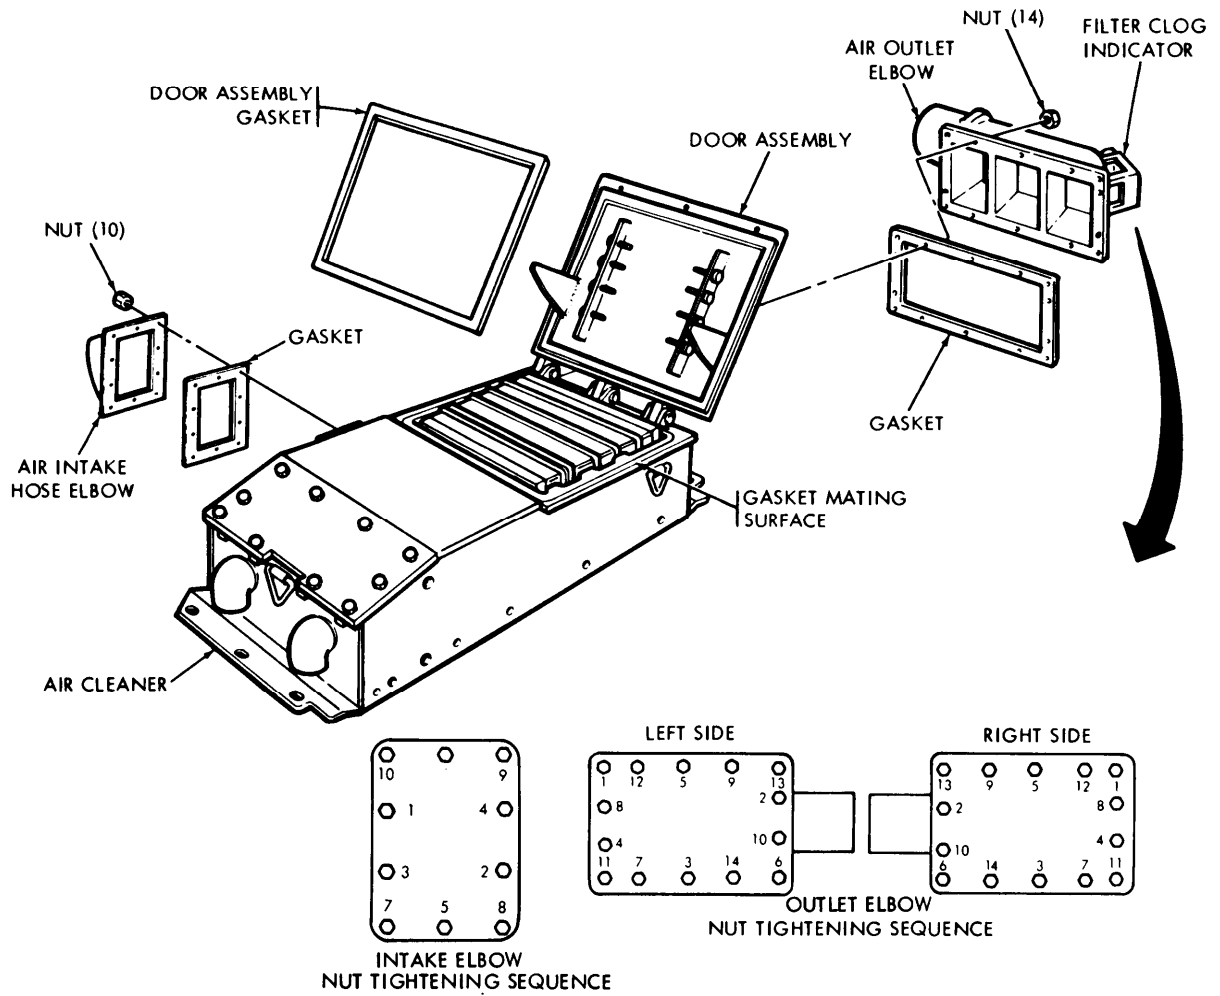
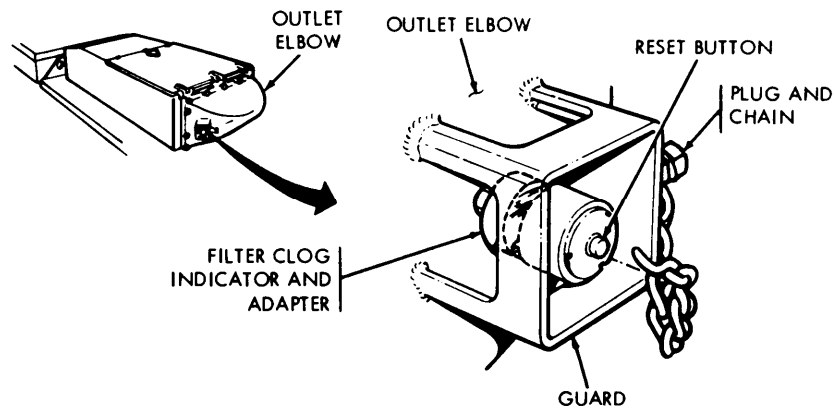
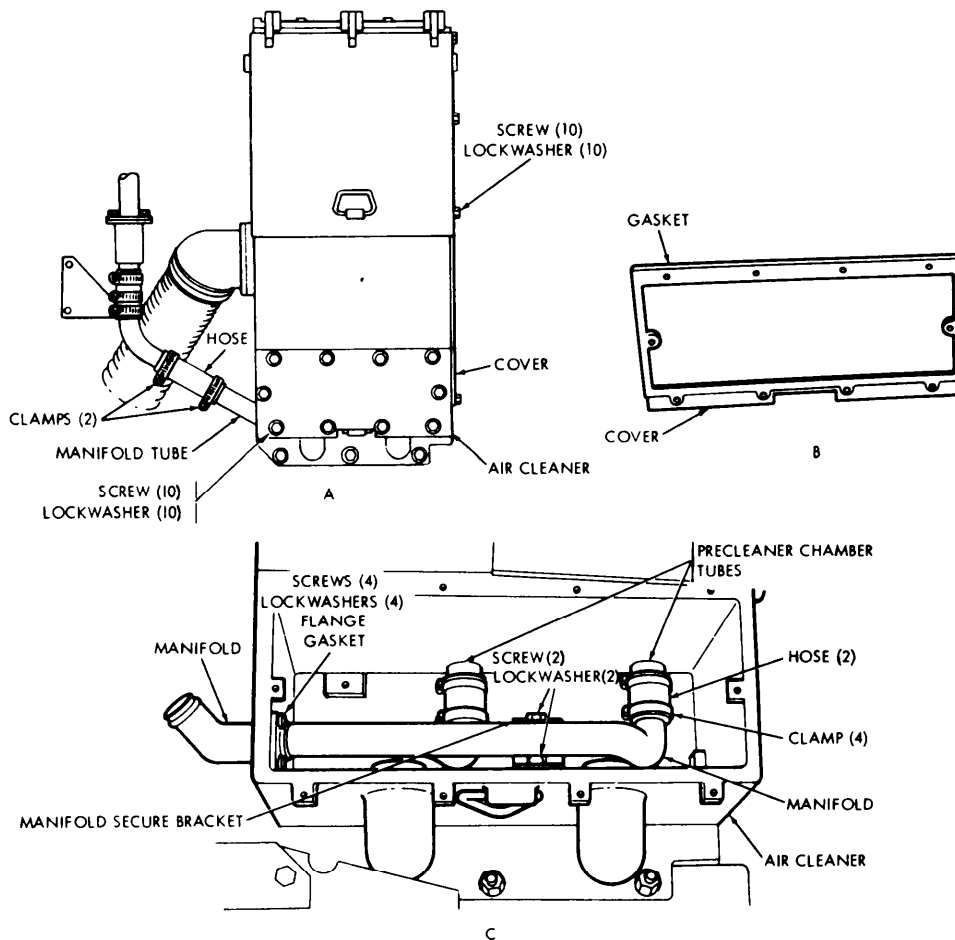

Figure 6-9. Air cleaner repair.
Figure 6-10. Filter clog indicator replacement.
Figure 6-11. Vehicle exhaust dust ejector system (VEDES) air cleaner manifold replacement.
- (11) Remove protective covers from air cleaner air outlet elbow and hose. Install hose clamp over flange and tighten clamp (view D).
- (12) Close top deck door assemblies.
- a. *Door Assembly Gasket Replacement (Fig. 6-9).*
- (1) Completely remove old gasket and adhesive from gasket recess by scraping or other mechanical means.
- (2) Apply adhesive (item 1, appendix C) to bottom of gasket recess in door.
- (3) Install new gasket on door with flat side of rubber gasket toward adhesive.
- (4) Close door assembly and secure with three screws.
- b. *Air outlet elbow replacement (Fig. 6-9).*
- (1) Remove air cleaner (para. g(1) above).
- (2) Remove 14 nuts securing air outlet elbow to air cleaner.
- (5) Remove air outlet elbow and gasket. Discard gasket. Cover air cleaner opening.
- (7) Install 14 nuts securing elbow to air cleaner. Tighten nuts to 35 lb. ft. (47 N.m) using sequence shown in figure 6-9. Repeat sequence tightening nuts to 50 lb. ft. (68 N.m).
- (8) Install air cleaner on vehicle (para. (g) (2) above).
- c. *Air Intake Elbow Replacement (Fig. 6-9).*
- (1) Remove air cleaner (para. 6-13a above).
- (2) Remove 10 self-locking nuts securing air intake hose elbow to air cleaner housing.
- (3) Remove air intake hose elbow and gasket. Discard gasket.
- (4) Remove protective cover from air cleaner air intake hose elbow opening if required.
- (5) Inspect and clean mating surfaces of air intake hose elbow and air cleaner.
- (6) Position new gasket and air intake hose elbow on air cleaner.
- (7) Install 10 self locking nuts securing air intake hose elbow to air cleaner in sequence shown on figure 6-9.
- d. *Filter Clog Indicator Replacement (Fig. 6-10).*
- (1) Remove damaged or defective filter clog indicator along with adapter when engine is not operating. If a new filter clog indicator is not installed right away, install plug attached to chain securely into opening in outlet elbow.
- (2) If plug has been installed into opening (1 above), remove it and install new adapter and filter clog indicator. Install plug in its original position on guard. Push reset button (early model).
- e. *Air Cleaner Manifold Replacement (Fig. 6-11).*
An air cleaner filter clog indicator has been added to each of the air cleaner outlet elbows to indicate when the filters require servicing (fig. 6-10). When the filters are clogged the window on the indicator shows red (early model) or indicates a reading of 25 or more (late model). Remove filters and clean per para. C. Reset indicator by pressing reset button. Refer to para. 6-14d for replacement of filter clog indicator.